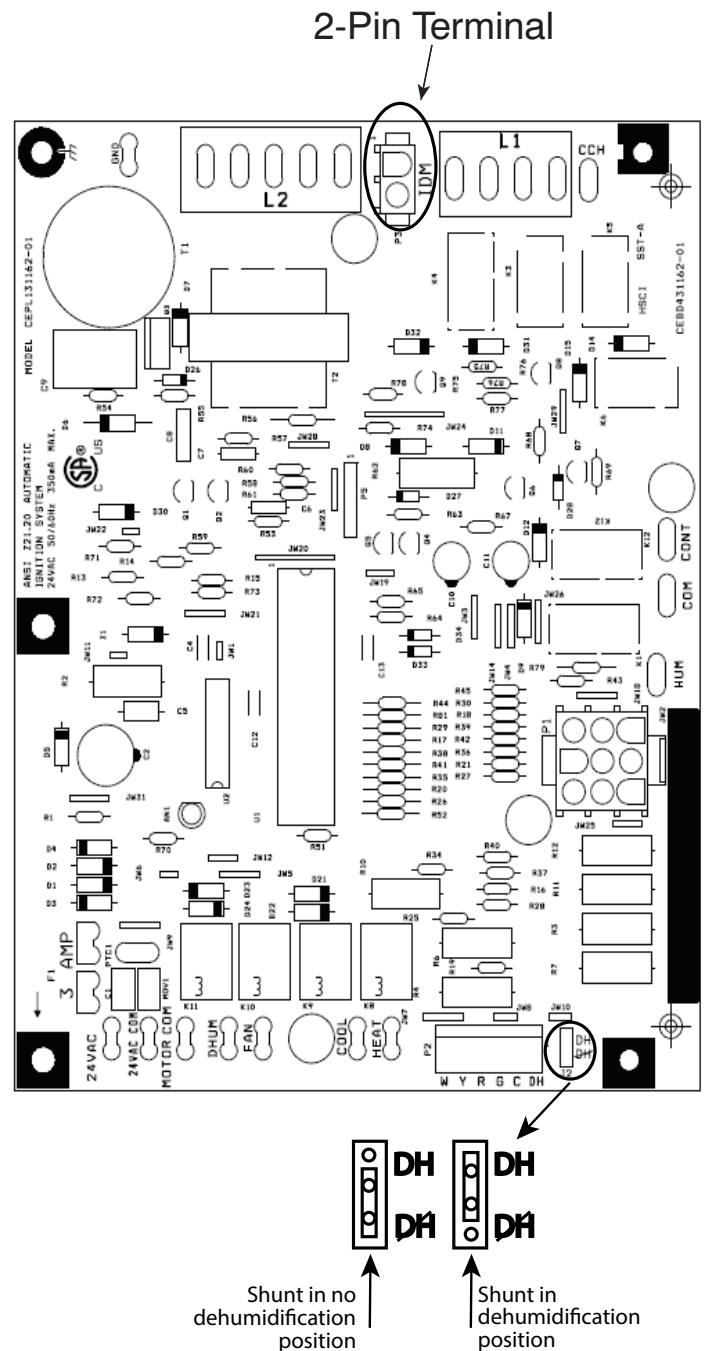

Fig. 18 – Ultra Low NOx Single Phase IGC Board
This unit is factory-set for use with a single cooling fan speed. For single phase models, the cooling speed is marked "COOL" on the IGC (See Fig. 18). The factory-shipped settings are noted in Table 9. There are up to 3 additional speed tap wires available for use in either gas heating mode, cooling mode, or continuous fan mode (For color coding on the indoor fan motor leads, see Table 7). For single phase models, one of the additional speed tap wires is connected to the continuous fan, with the other 2 wires shipped loose in the control box near the IGC. For three phase models, the additional 3 speed tap wires are shipped loose with vinyl caps and are located in the control box near the interface fan board (IFB) (See Fig. 18).
1. Move shunt jumper on IGC board to “DH” (See Fig. 18).